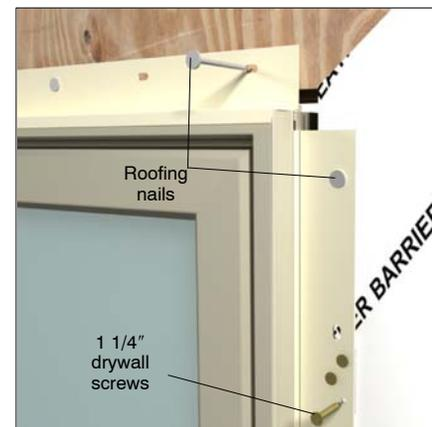

Figure 5: Fasten clips through nailing fin.
4. If you are using Installation Clips in conjunction with nailing fin, fasten the clips to the rough opening with 1 1/4" drywall screws. See figure 5.